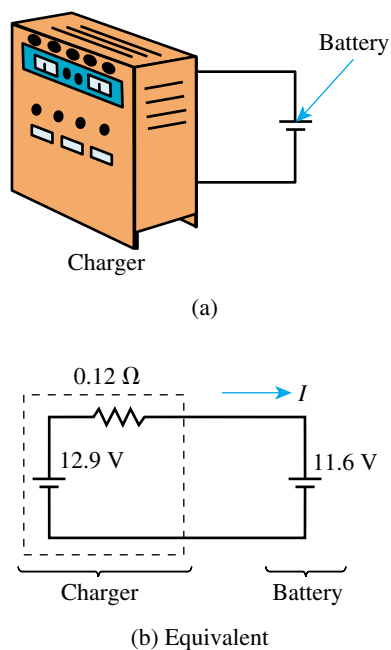

FIGURE 4-42
70. **EWB** A battery charger with a voltage of 12.9 V is used to charge a battery, Figure 4-42(a). The internal resistance of the charger is $0.12\ \Omega$ and the voltage of the partially run-down battery is 11.6 V. The equivalent circuit for the charger/battery combination is shown in (b). You reason that, since the two voltages are in opposition, net voltage for the circuit will be $12.9\text{ V} - 11.6\text{ V} = 1.3\text{ V}$ and, thus, the charging current I will be $1.3\text{ V}/0.12\ \Omega = 10.8\text{ A}$. Set up the circuit of (b) and use Electronics Workbench to verify your conclusion.